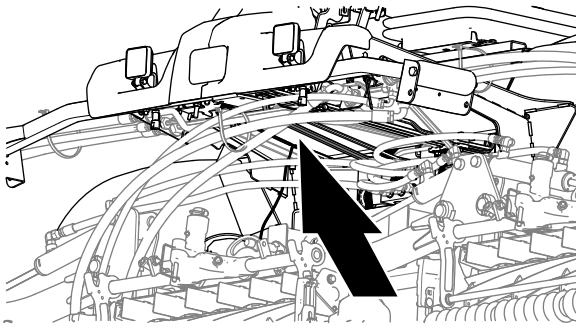
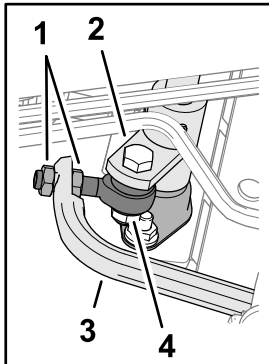

Figure 94
Figure 95
- Adjust the jam nuts on the rod end to move the traction rod forward to eliminate forward creep or rearward to eliminate rearward creep (Figure 94 and Figure 95).